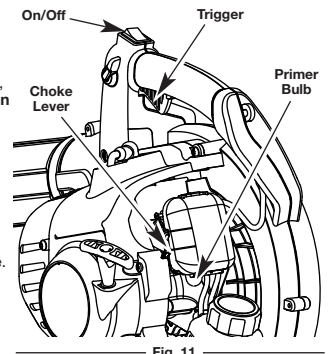

Fig. 11
3. Fully press and release the primer bulb 10 times, slowly. Some amount of fuel should be visible in the primer bulb and fuel lines (Fig. 11). If you can't see fuel in the bulb, press and release the bulb as many times as it takes before you can see fuel in it.
HOT RESTART: If the unit is already hot, place the choke lever in **Position 3** and pull the starter rope to restart. The unit should be started in idle. Do not squeeze the trigger while starting (Fig. 11).
2. Press the On/Off Stop Control switch in the OFF (O) position and hold until the engine comes to a complete stop (Fig. 11).